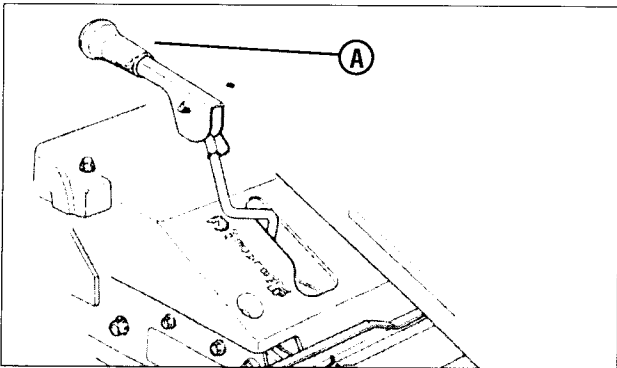

Figure 4: Blade lever (in 'Off' position)
2. Make certain the Blade Lever (A, Figure 4) is in the “OFF” position.
- Make certain the Blade Lever (A, Figure 4) is in the "OFF" position.